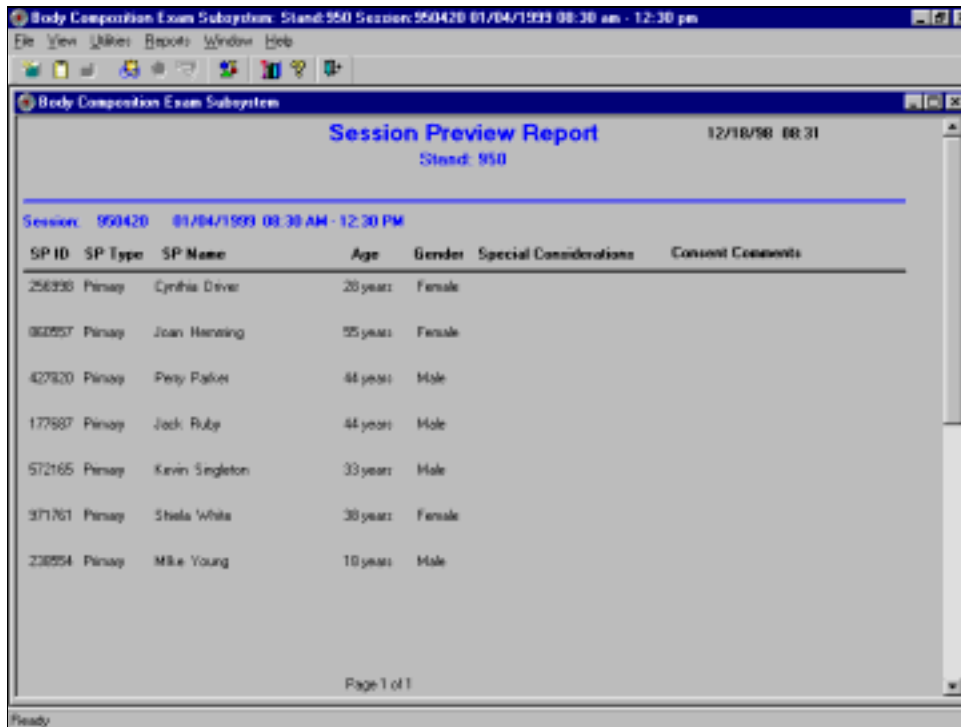

Figure 4-42. Session Preview Report
- The SP ID, name, sex, age, SP status, and component status are displayed. See Figure 4-42.